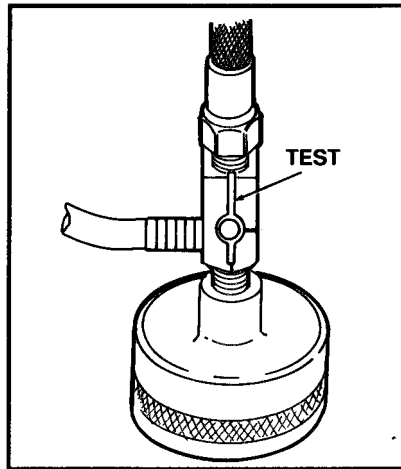

Figure 2.34 Three-Way Valve
- a. Hold the sampler in an upright (vertical) position, turn the three-way valve to the **TEST** position: when the valve arm is positioned at a right angle to the base of the valve (vertical) (Figure 2.34).